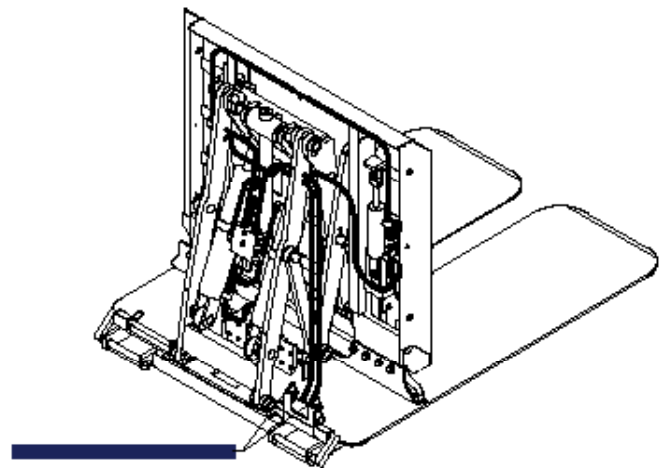

Figure 4-5, Truck Connection
1. Install the lines from the truck's hydraulics to the hydraulics of the attachment. (Figure 4-5)
2. Disconnect the hydraulic connection for the attachment positioning at the hydraulic valve. (Figure 4-5)